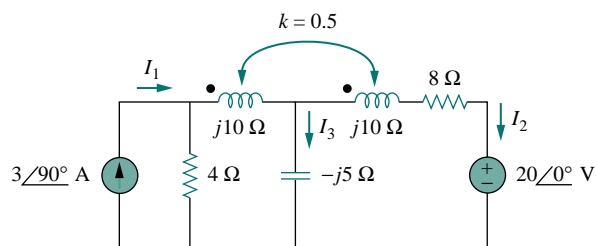

Figure 13.83 For Prob. 13.13.
- 13.13 Determine currents I_1 , I_2 , and I_3 in the circuit of Fig. 13.83. Find the energy stored in the coupled coils at $t = 2$ ms. Take $\omega = 1000$ rad/s.